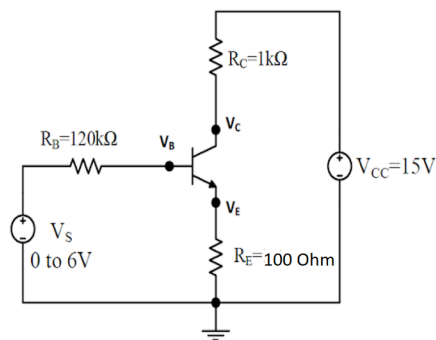
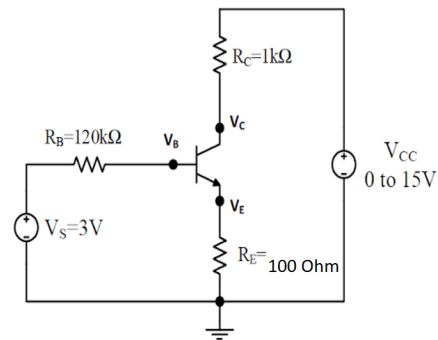

Figure 1
Figure 2
7. Setup the circuit given in Figure 1 in OrCAD. Use BC237 (in Zetex Library) transistor model. Plot input characteristic of the transistor (V_{BE} - I_B). You can select the analysis type as 'DC Sweep' and options as 'Primary Sweep'. Sweep input voltage (V_{BB}) from 0 to 6V in steps of 0.1V. Specify critical points on the plot and comment about your simulation result.
8. Setup the circuit given in Figure 2 in OrCAD. Use BC237 transistor model. Plot output characteristic of the transistor (V_{CE} - I_C). You can select the analysis type as 'DC Sweep' and options just as 'Primary Sweep'. Sweep input voltage (V_{CC}) from 0 to 15V in steps of 1V. Specify critical points on the plot and comment about your simulation result.
9. Setup the circuit given in Figure 2 in OrCAD. Use BC237 transistor model. Plot output characteristic of the transistor (V_{CE} - I_C). You can select the analysis type as 'DC Sweep' and options as 'Primary Sweep' with 'Secondary Sweep'. Primary Sweep
10. Set up the circuits given in Figure 1 and Figure 2 in TincerCAD and add the results to the report.
1. Set up the circuit in Figure 1 and measure the V_B , V_C , and V_E voltages for the V_S values given in Table 1 and write them in Table 1. Calculate the values of I_B , I_C , I_E , β , V_{BE} , V_{CE} according to the measured values and write them down in Table 2.
2. Set up the circuit in Figure 2 and measure the V_B , V_C , and V_E voltages for V_{CC} values given in Table 3. Calculate the values of I_B , I_C , and V_{CE} and write them in Table 3.